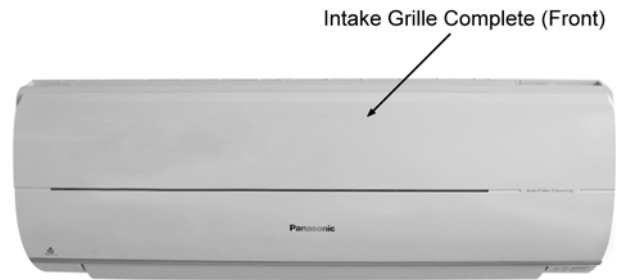

Fig. 1
1. Open and release the Intake Grille complete (Front). (Fig. 1)